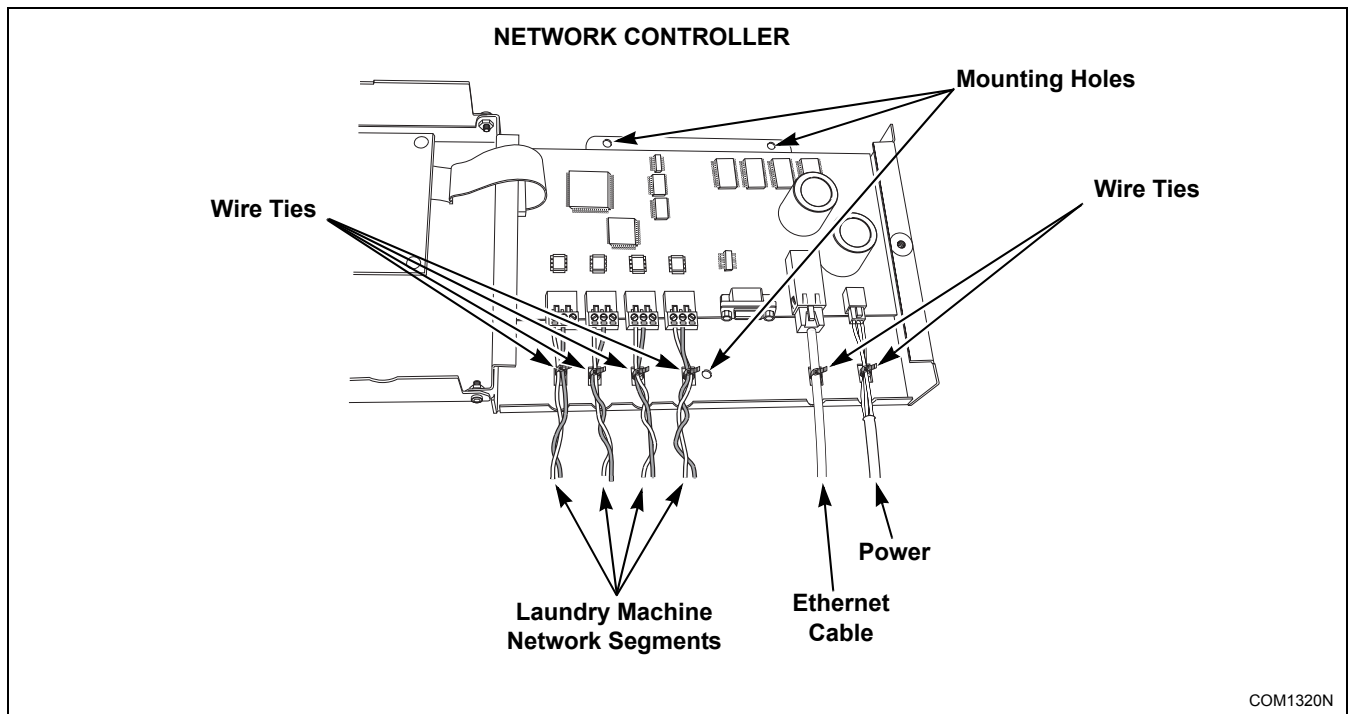
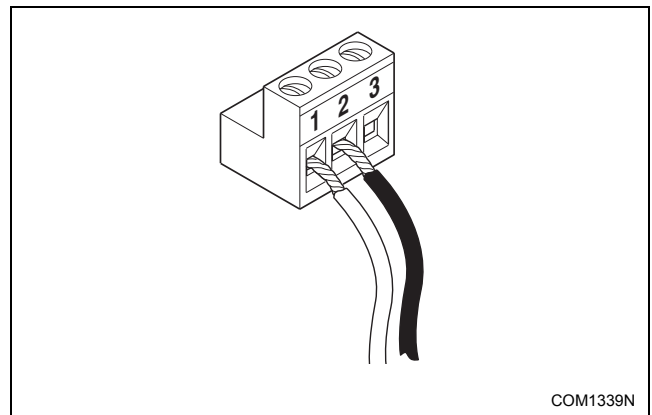

Figure 2
Figure 7
Refer to *Figure 2*.
- Connect all laundry machine network segments to Network Controller. Refer to *Figure 2* and *Figure 7*.